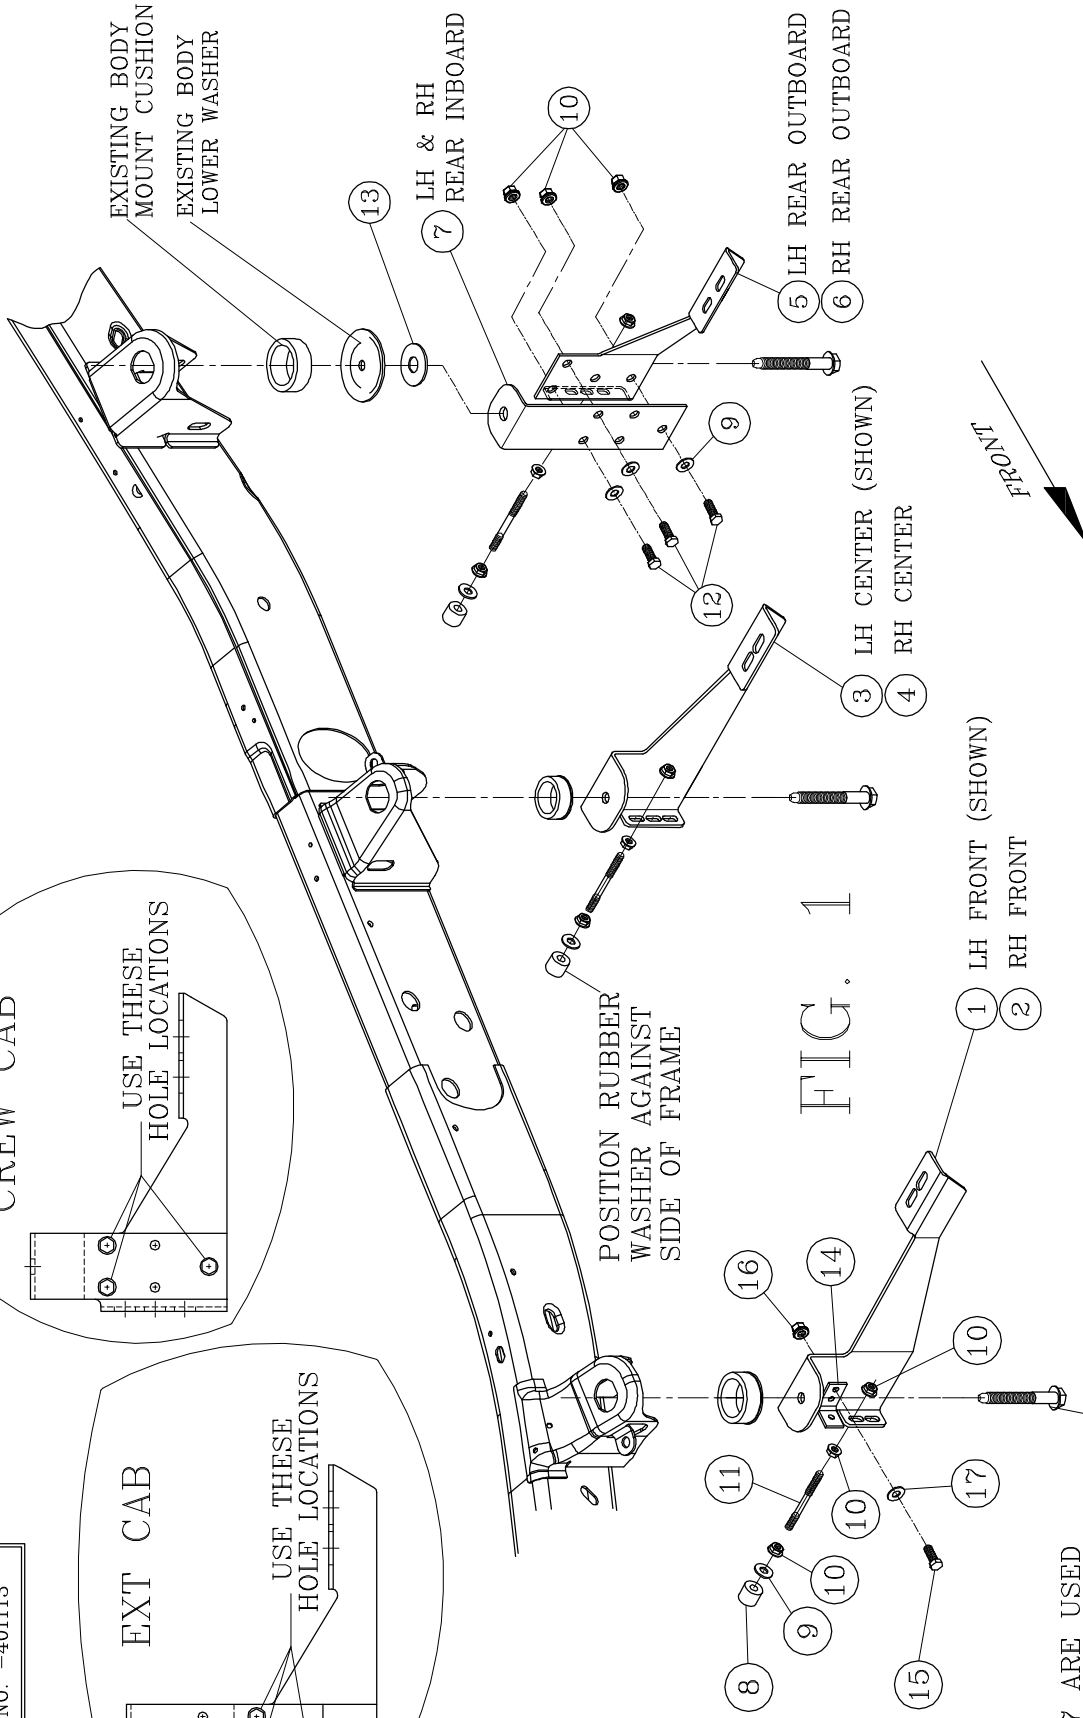

FIG. 1
NOTE: IF YOU ARE MOUNTING THE STEPS ON A 1500 MODEL PICKUP, YOU MUST ATTACH BRACKET (ITEM #14) TO BRACKETS (ITEM #1 & 2) (SEE FIG 1.) IN ORDER TO USE THE LOAD REACTION STUD.
- 4.3.1. ATTACH THE REAR OUTBOARD CAB MTG BRKT (ITEM #5 & #6) TO THE REAR INBOARD CAB MTG BRKT (ITEM #7), WITH THE 3/8" BLACK ZINC PLATED BOLTS (ITEM # 12), WASHERS (ITEM #9) AND SERRATED FLANGE NUTS (ITEM # 10). THE REAR OUTBOARD CAB MTG BRKT MUST BE MOUNTED TO THE BACK SIDE OF THE REAR INBOARD CAB MTG BRKT (TOWARDS THE REAR OF THE VEHICLE) AS SHOWN. BE SURE TO USE THE BOTTOM SINGLE HOLE AND BOTTOM DOUBLE HOLES IN THE REAR INBOARD CAB MTG BRKT (SEE FIG 1). PUT THE BOLTS THROUGH THE FRONT SIDE OF THE BRACKET SO THE FLANGE NUTS ARE ON THE BACK SIDE TO ALLOW CLEARANCE FOR THE FRAME OF THE TRUCK. TORQUE THE BOLTS TO 19 LB. FT.
- 4.3.2. INSTALL THE REAR OUTBOARD CAB MTG BRKT (ITEM #5 & #6) TO THE REAR INBOARD CAB MTG BRKT (ITEM #7), WITH THE 3/8" BLACK ZINC PLATED BOLTS (ITEM # 12), WASHERS (ITEM #9) AND SERRATED FLANGE NUTS (ITEM # 12). THE REAR OUTBOARD CAB MTG BRKT MUST BE MOUNTED TO THE BACK SIDE OF THE REAR INBOARD CAB MTG BRKT (TOWARDS THE REAR OF THE VEHICLE) AS SHOWN. BE SURE TO USE THE BOTTOM SINGLE HOLE AND TOP DOUBLE HOLES IN THE REAR INBOARD CAB MTG BRKT (SEE FIG 1). PUT THE BOLTS THROUGH THE FRONT SIDE OF THE BRACKET SO THE FLANGE NUTS ARE ON THE BACK SIDE TO ALLOW CLEARANCE FOR THE FRAME OF THE TRUCK. TORQUE THE BOLTS TO 19 LB. FT.